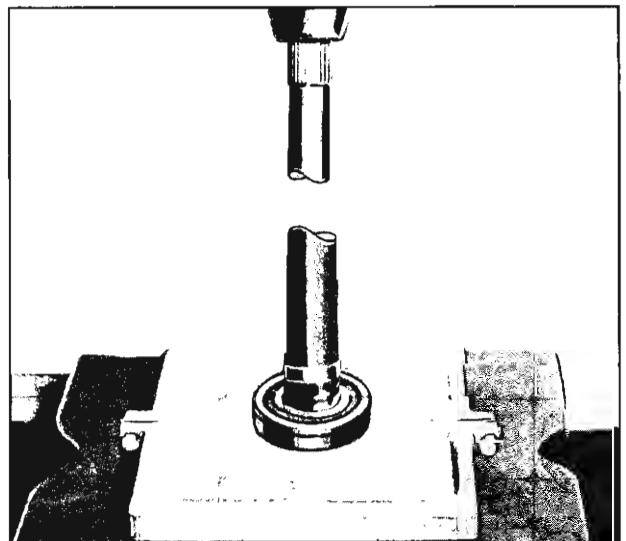

Fig. 4—Removing Axle Shaft Bearing
2. Press bearing from shaft with press plate parting line (fig. 4) resting on press bed. This operation may damage the bearing retainer so that it may have to be replaced.